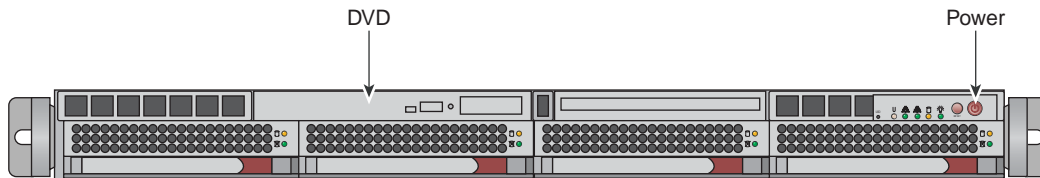

Figure 2-1 System Admin Controller Power On Button and DVD Drive
1. Turn on, reset, or reboot the system admin controller. The power on button is on the right of the system admin controller, as shown in Figure 2-1 on page 35.
2. Insert the SGI Admin Node Autoinstallation DVD in the DVD drive on the left of the system admin controller as shown in Figure 2-1 on page 35.